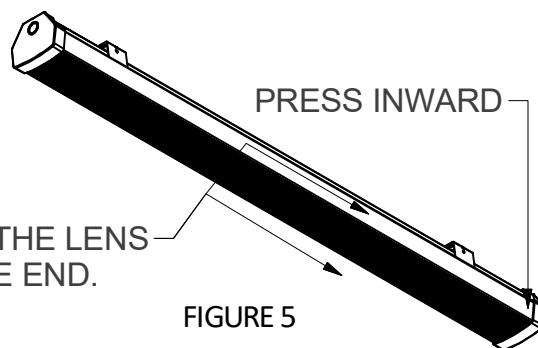

FIGURE 5
- C. Once the lens has been shifted to one end, the opposite end will be able to slide into the end cap, center lens on fixture once installed. (See Figure 5)